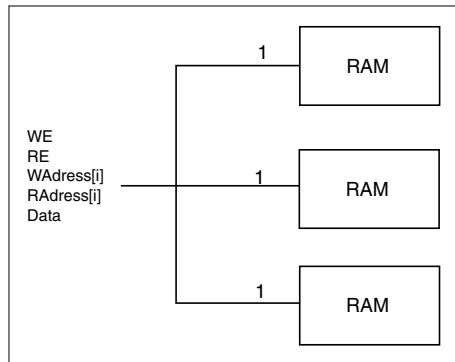
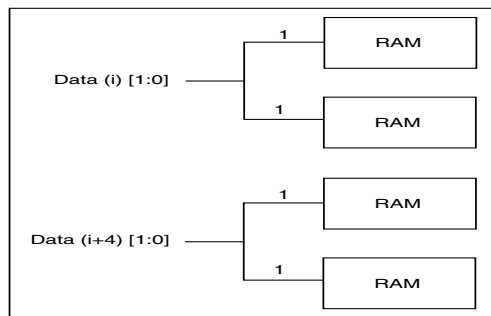

Figure 13-2. Manual Buffering (96x8 RAM Configuration)
Figure 13-3. Manual Buffering for the Data Bus (128x8 RAM Configuration)
Figure 13-2 shows how manual buffering is done. A fan-in of one (1) is enforced on all signals fanning out to more than one RAM cell. If these signals were broadcast to all RAM cells, very slow routing resources (long freeways) would be required to route the signals impacting the RAM performance.
Manual buffering should only be used if the expected performance is not realized using the automatic buffering scheme, or if you know ahead of time that you need to use this scheme to meet your timing goals. In this architecture, the idea is not to buffer the signals internally but rather give some kind of access to the RAM macro internal signals. Then, you must buffer the signals outside the macro and either use traditional buffers or duplicate the logic that drives these signals externally. If you choose manual buffering, the *WE*, *RE*, *Waddress(i)*, *RAddress(i)* and *Data[i]* signals become busses external to the macro. For all these signals, the bus width is equal to the number of RAM cells (used to build a given configuration) driven by each signal. Figure 13-2 illustrates the manual buffering architecture for a 96x8 RAM configuration, built of three 32x8 configured RAM cells. In this configuration, the *WE*, *RE*, *WAddress* and *RAddress* signals drive all RAM cells simultaneously. Figure 13-3 shows a 128x8 RAM configuration, built using four 64x4 configured RAM cells. In that